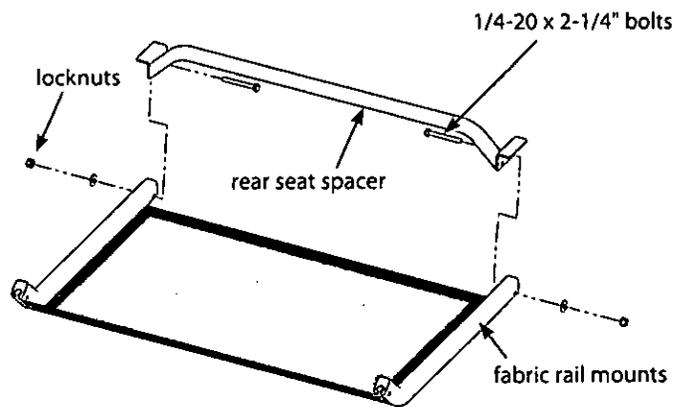

Figure 6a
8. a. Position the pre-assembled mesh seat/fabric rail mounts (360018) upside down on a sturdy, hard surface. Spread the rear of fabric rail mounts apart and insert the rear seat spacer weldment (410122). Temporarily insert (2) 1/4-20 x 2-1/4" bolts and locknuts. SEE FIGURE 6a.